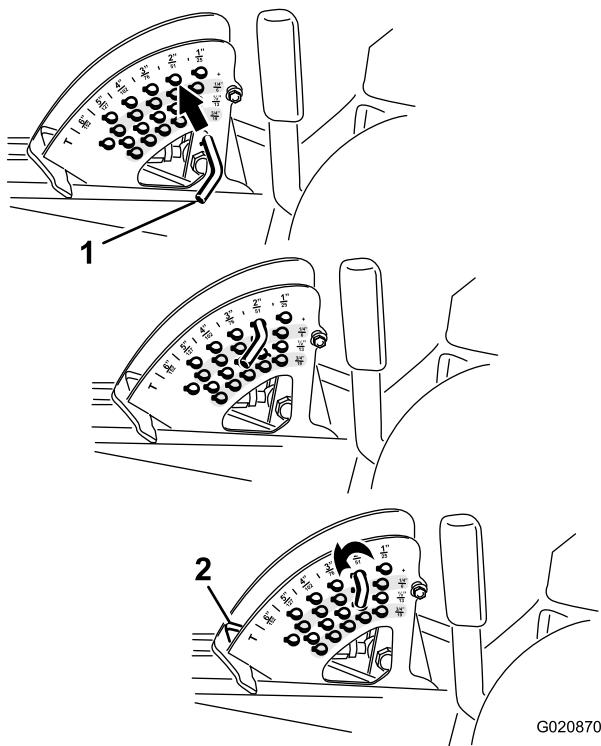

Figure 25
2. Rotate the stop pin until the roll pin in it lines up with the slots in the holes in the height-of-cut bracket and remove it (Figure 25).
3. Select a hole in the height-of-cut bracket corresponding to the height of cut desired, insert the pin, and rotate it down to lock it in place (Figure 25).
**Note:** There are 4 rows of hole positions (Figure 25). The top row gives you the height of cut listed above the pin. The second row down gives you the height listed plus 6 mm (1/4 inch). The third row down gives you the height listed plus 12 mm (1/2 inch). The bottom row gives you the height listed plus 18 mm (3/4 inch). For the 15.8 cm (6 inch) position, there is only 1 hole,